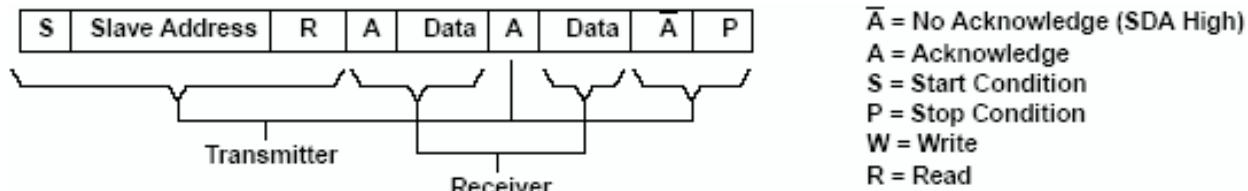
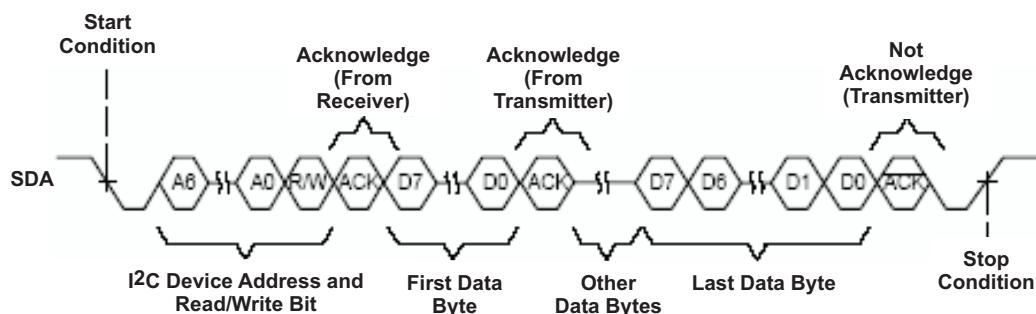

Figure 35. I²C Read Cycle
Figure 36. Multiple Byte Read Transfer
address. Following this initial acknowledge by the slave, the master device becomes a receiver and acknowledges data bytes sent by the slave. When the master has received all of the requested data bytes from the slave, the not acknowledge (A) condition is initiated by the master by keeping the SDA signal high just before it asserts the stop (P) condition. This sequence terminates a read cycle as shown in Figure 35 and Figure 36. See Example – Reading from the SN75DP122A section for more information.
The SN75DP122A operates using a multiple byte transfer protocol similar to Figure 36. The internal memory of the SN75DP122A contains the phrase *DP-HDMI ADAPTOR<EOT>* converted to ASCII characters. The internal memory address registers and the value of each can be found in Table 3.